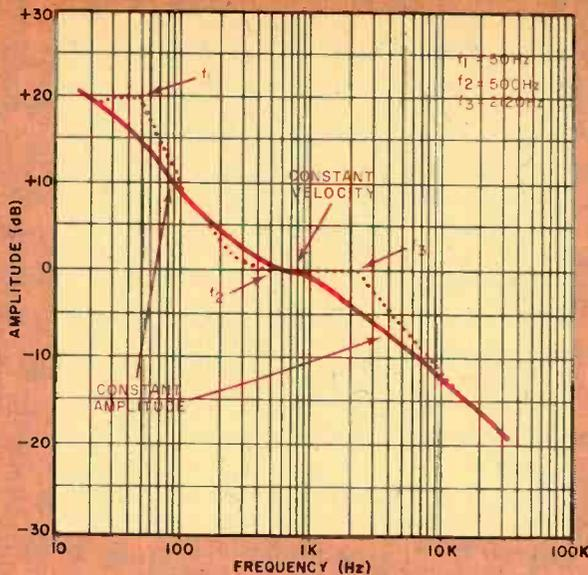

Fig. 4. RIAA playback equalization compensates for the recording characteristic that was shown in Fig. 1.
With the equalizer module(s) and power supply subsection fully wired, you can set them side by side and temporarily interconnect them, following the diagram shown in Fig. 4 to check out their operation. (Note that the dia-
Fig. 4. Wiring scheme for home audio system is shown here with stereo setup. For mono, eliminate channel B; for 4-channel add channels C and D in same manner as shown for channel B to channel A.
The solution is to try and get the best of both systems by using a modified constant amplitude curve, where the midband region is allowed to operate in the constant-velocity mode. The resulting RIAA playback equalization curve is shown in Fig. 4, with the idealized version dotted and the actual realization drawn in a solid line. Three frequencies are noted as standard reference points, and are sometimes referred to as "time constants." This is a carryover from the practice of specifying corner or break frequencies by the time constants of the equivalent RC circuits that realized the response. The time constant  $T$  is measured in seconds and is the product of  $R$  in ohms and  $C$  in farads ( $T = RC$ ). The relationship between  $T$  and corner frequency  $f$  (in hertz) is given by the equation  $T = 1/(2\pi f)$ , and results in time constants of 3180  $\mu$ s for  $f_1$ , 318  $\mu$ s for  $f_2$ , and 75  $\mu$ s for  $f_3$ . Frequency  $f_2$  is referred to as the *turnover* frequency because it marks the point at which the system changes from constant amplitude to constant velocity recording. Similarly,  $f_3$  is the turnover frequency where the system reverts to constant amplitude recording.
**Ceramic and Crystal Pickups.** Before we consider the details of circuits providing the desired playback equalization for magnetic cartridges, a few words about ceramic and crystal transducers are in order. Unlike constant-velocity magnetic cartridges, ceramic and crystal pickups are constant-amplitude devices. Therefore they don't require equalization since their outputs are inherently flat. However, there will be some variation in output when these cartridges are used in an RIAA-equalized system. Referring to Fig. 4, we have noted that the region between  $f_2$  and  $f_3$  is the constant velocity portion of the curve. When a